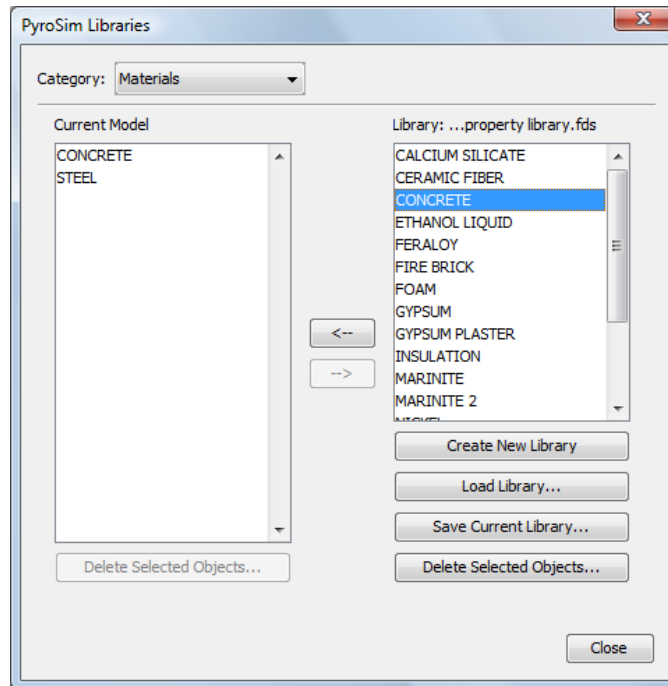

Figure 7.5. Copy the material data from the library to the model
3. Use the arrow to copy the **CONCRETE** and **STEEL** materials from the library into the **Current Model**, Figure 7.5.